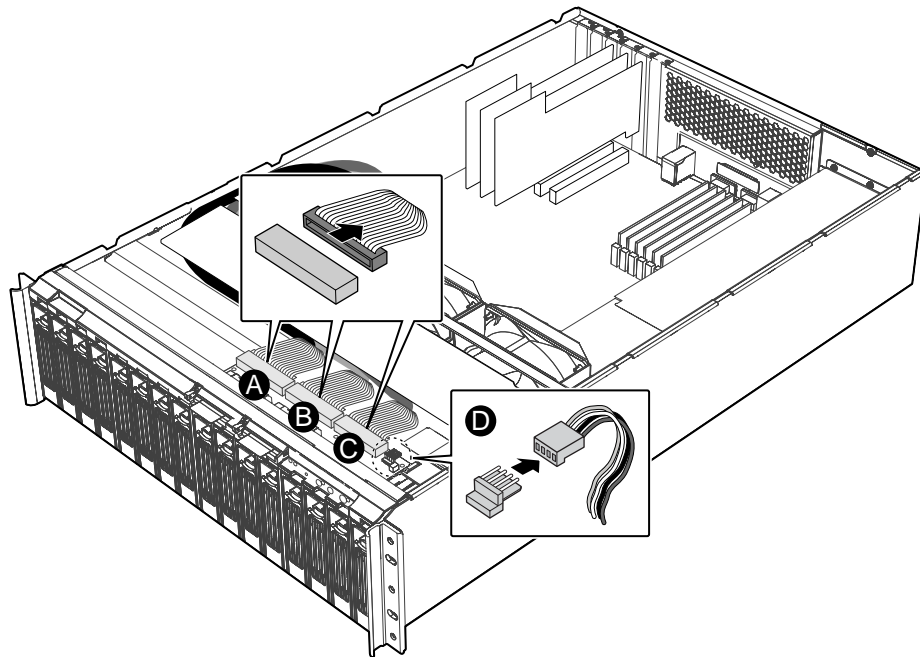

Figure 30. Removing Front Panel Cables
- A. Remove the Primary IDE Cable labeled J5 from its connector receptacle on the front panel board. See Figure 30.
- B. Remove the Secondary IDE Cable labeled J3 from its connector receptacle on the front panel board. See Figure 30.
- C. Remove the Front Panel Cable labeled J1 from its connector receptacle on the front panel board. See Figure 30.
- D. Remove the front panel power connector from its connector receptacle on the front panel board. See Figure 30.